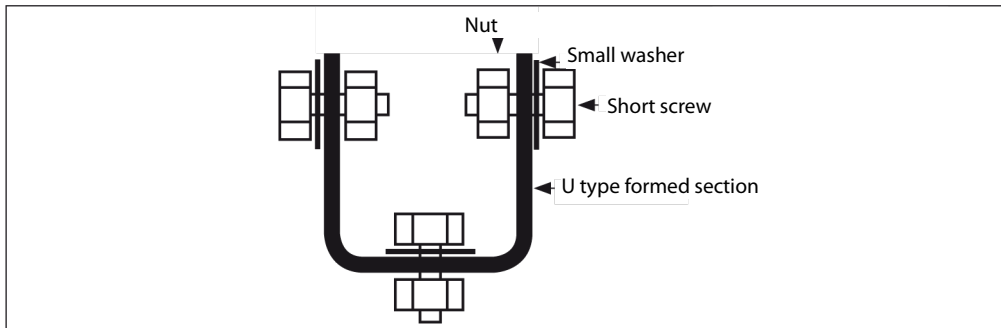

Figure 19
- Prepare six narrow U formed sections as shown in figure 19.